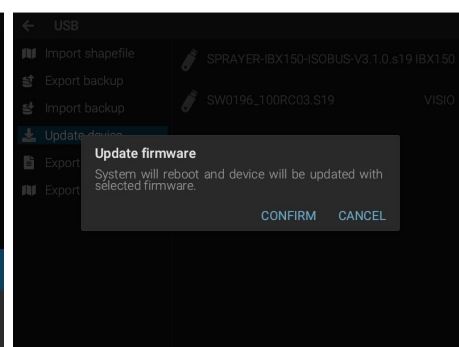

Fig. 109
- Press **Confirm** (Fig. 109). The monitor will scan the file and, if compatible, the update will start.